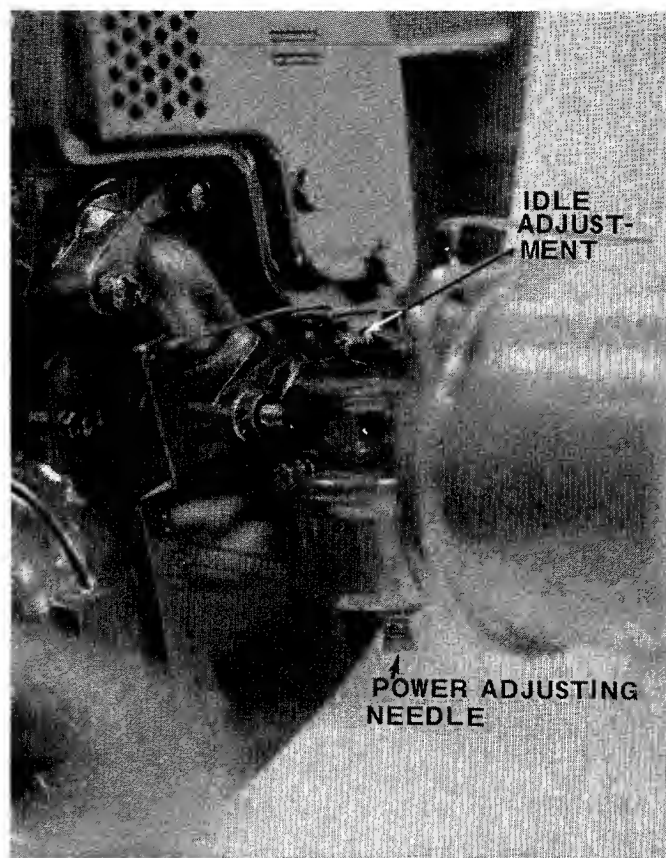

FIGURE 29
CARBURETOR ADJUSTMENTS (See figure 29)
1. Close power adjusting needle (figure 29) by turning to right (clockwise). Close finger tight only. Forcing will cause damage.
3. Close idle adjusting needle (figure 29) by turning to right (clockwise). Close finger tight only. Forcing will cause damage.